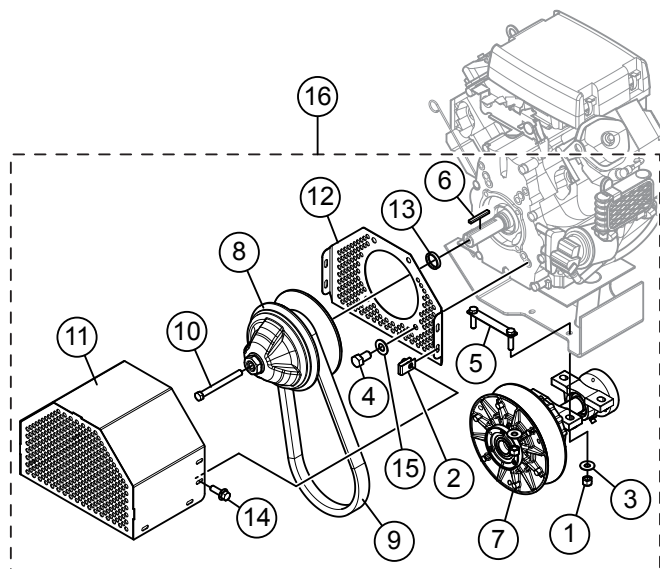

Figure 1. Clutch Retrofit Kit
Verify that all parts are accounted for. See Figure 1 and Table 1.
5. Place new belt (Figure 1, item 9) onto lower pulley. Let belt hang freely.